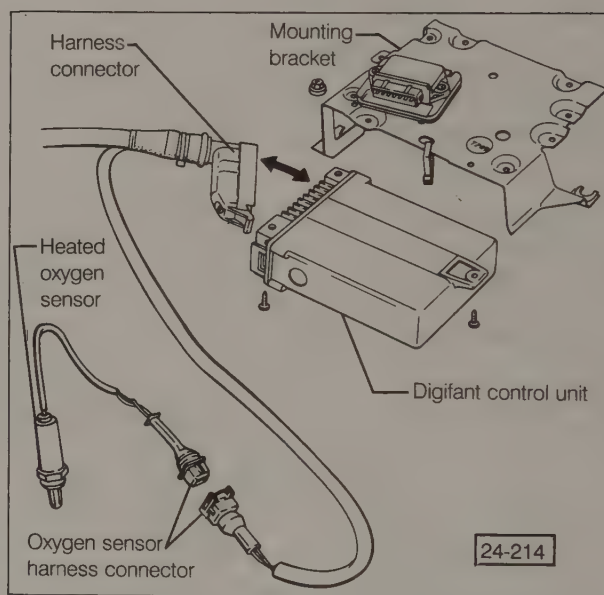

Fig. 5-7. Digifant control unit and oxygen sensor showing mounting and harness connectors.
1. Disconnect the harness connector from the Digifant control unit, as shown in Fig. 5-7.
The Digifant control unit is located on the driver's side of the car above the firewall, under the windshield cowl. See Fig. 5-7 above. Disconnect the battery negative (–) terminal. Lift out the plastic drip tray for access to the control unit. Disconnect the harness connector, remove the mounting screws, and lift out the unit. Installation is the reverse of removal. Make sure that the connector and socket are clean and dry, that the connector is solidly attached, and that no wires are bent or pinched.